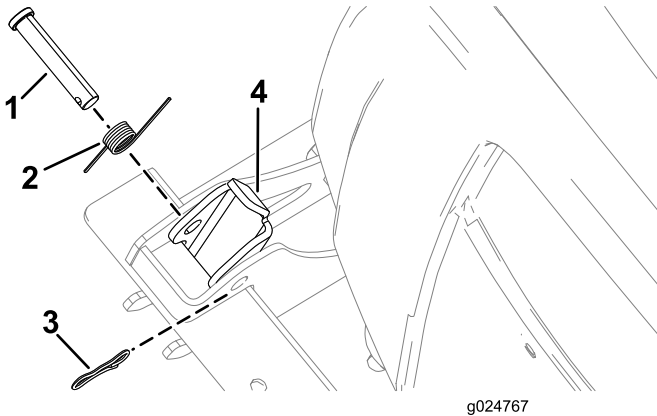

Figure 55
1. Remove the hairpin from the clevis pin (Figure 55).
2. Remove the clevis pin and spring from the latch (Figure 55).